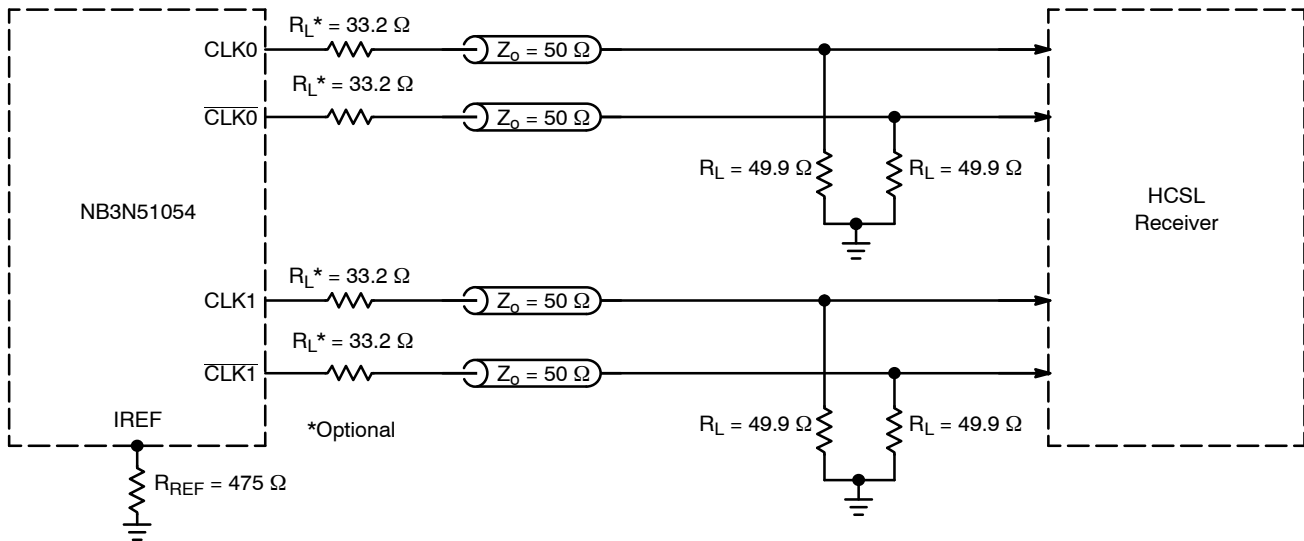
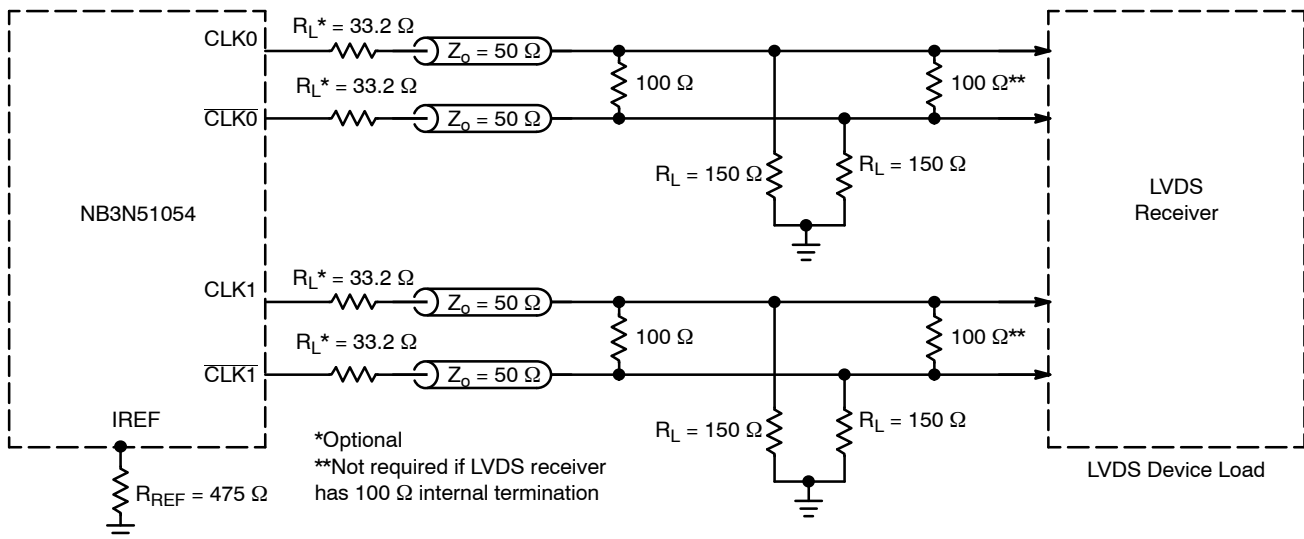

Figure 6. Typical Termination for HCSL Output Driver and Device Evaluation
Figure 7. Typical Termination for LVDS Device Load
- Measurement taken with outputs terminated with R_S = 33.2 Ω, R_L = 49.9 Ω, with test load capacitance of 2 pF and current biasing resistor set at R_{REF} = 475 Ω. See Figure 6. Guaranteed by characterization.
9. Measurement taken from differential output on single-ended channel terminated with $R_S = 33.2 \Omega$, $R_L = 49.9 \Omega$, with test load capacitance of 2 pF and current biasing resistor set at $R_{REF} = 475 \Omega$. See Figure 6. Guaranteed by characterization.
14. Measurement taken from differential output on single-ended channel terminated with R_S = 33.2 Ω, R_L = 49.9 Ω, with test load capacitance of 2 pF and current biasing resistor set at R_{REF} = 475 Ω. See Figure 6. This parameter is guaranteed by characterization. Not tested in production
The outputs can be terminated to drive HCSL receiver (see Figure 6) or LVDS receiver (see Figure 7). HCSL output interface requires 49.9 Ω termination resistors to GND for generating the output levels. LVDS output interface may not